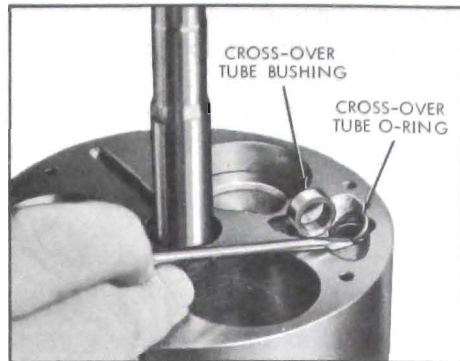

Figure 11-89—Installing Crossover Tube O-Ring
1. Install discharge crossover tube front O-ring and bushing. See Figure 11-89.